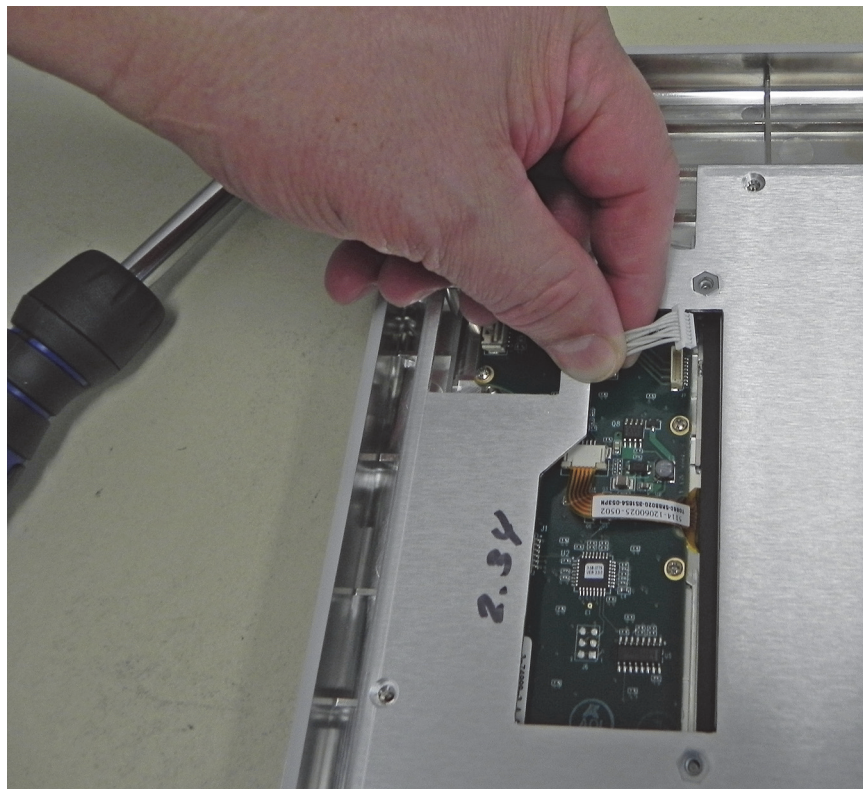

Figure 5-21. Disconnect Backlight Cable
3. Disconnect the LCD backlight cable from the keypad PCB (Figure 5-21).